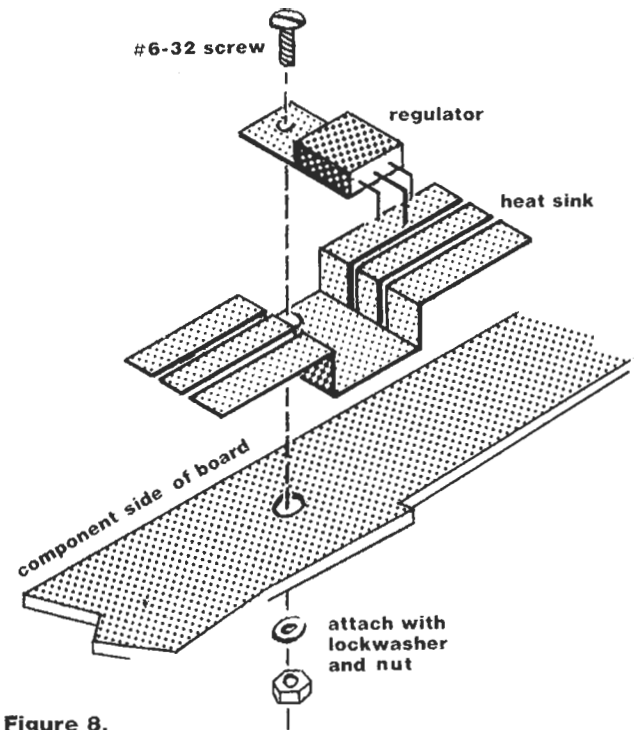

Figure 8.
3. Mount the 4 regulators and the regulator heat sinks in place. Referring to Figure 8, observe that the heat sinks mount on top of the board, and then, the regulators mount on top of the heat sinks. If desired, a small dab of heat sink compound may be added between the regulator cases and heat sinks to improve thermal transfer from regulator to sink. Again referring to Figure 8, bend all regulator leads as shown, then bolt the heat sink regulator assemblies into place using the provided nut, bolt, and lockwasher hardware. After these assemblies are in place, solder the regulator leads on the solder side of the board.